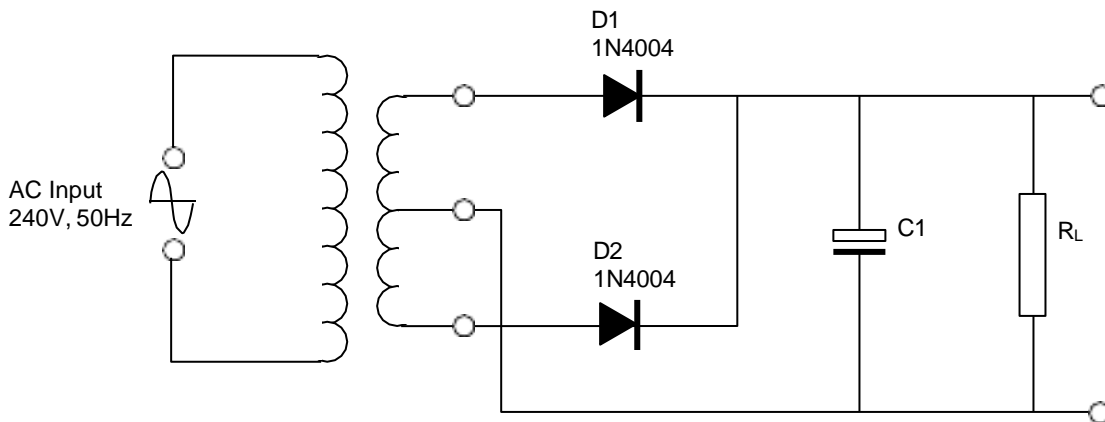

Figure 25.
4. See figure 25
- (a) If the load current in Figure 25 is 2A, calculate a suitable value capacitor for this power supply so that the ripple voltage is less than 3.2V.
- (b) If a capacitor of twice the value you calculated is used in the power supply of Figure 25, state the expected value of ripple voltage.
3. If one of the diodes in Figure 25 becomes an open circuit: